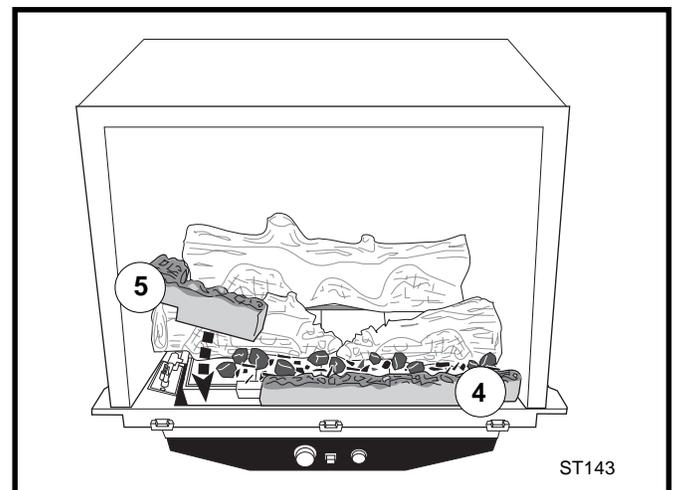

Fig. 21 Install the front ember logs.
3. Push the burner assembly fully to the rear. There should be a gap of about $\frac{13}{16}$ " between the front of the burner and the inside front wall of the firebox. Place the two front ember log sections (#4 and 5, Fig. 21) in the slot at the front of the firebox, just in front of the burner.